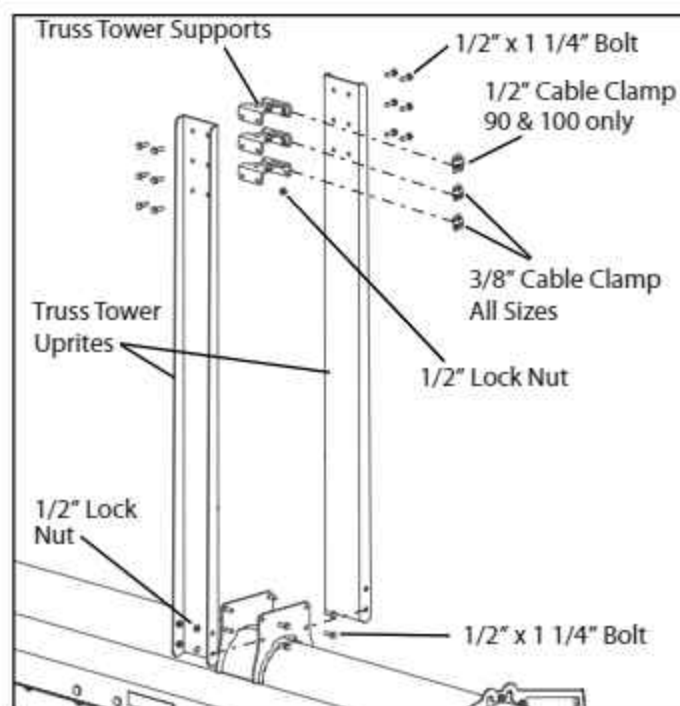

FIG. 3-24. Large Truss Tower Installation
1. Assemble the Large Truss Tower and install it on the tube using twenty 1/2"x 1 1/4" bolts and lock nuts. See Fig. 3-24.
1. Assemble the Large Truss Tower and install it on the tube using twenty 1/2" x 1 1/4" bolts and lock nuts. See Fig. 3-24.